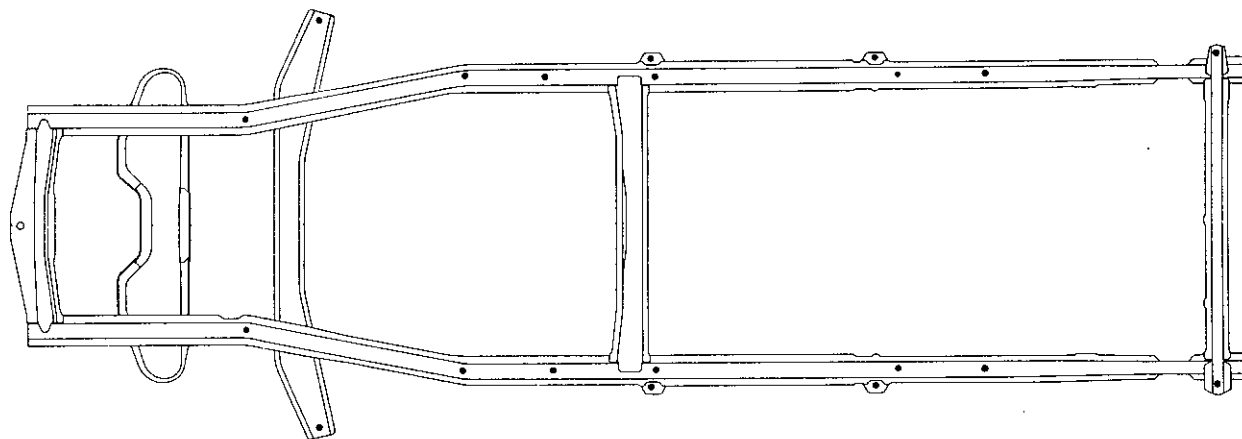

FIG. 5.—THE HEAVY DOTS ( • ) INDICATE BODY BOLT HOLES
**CHAMPION AND COMMANDER** The body is rigidly attached to the frame with twenty body bolts. The single-bolt attachments are located at the following points: one on each cowl bracket, one at each outer edge of the engine rear support cross member, two under each end of the front seat, two just behind each end of the center frame cross member, two in front of each rear wheel housing, one at the center of each rear wheel housing, and one at each end of the gas tank cross member (see Fig. 5).